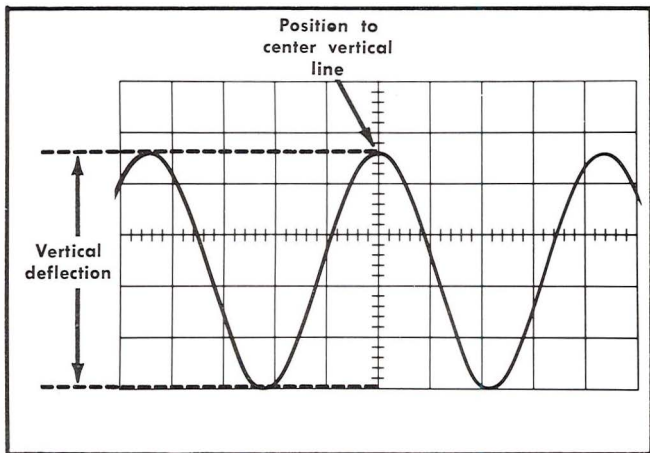

Fig. 2. Measuring peak-to-peak voltage of a waveform.
6. Set the vertical POS control so the lower portion of the waveform coincides with one of the horizontal graticule lines below the center horizontal line, and the top of the waveform is in the viewing area. Move the display with the horizontal POS control so one of the upper peaks lies near the center vertical line (see Fig. 2).
Example. Assume a peak-to-peak vertical deflection of 4.6 divisions (see Fig. 2) using a VOLTS/DIV switch setting of .5.